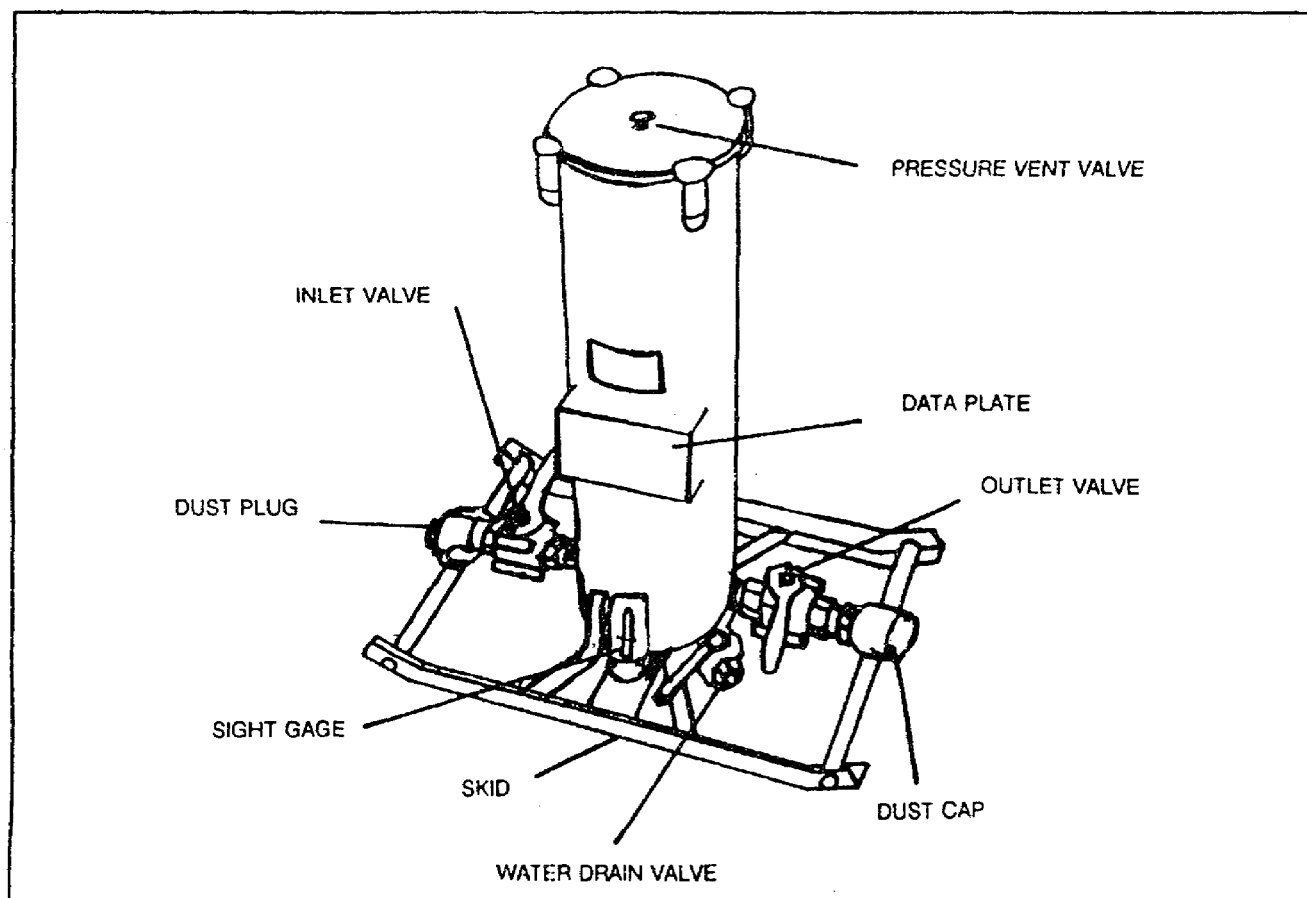

Figure 1-1. 15-GPM filter/separator
a. Description. The 15-GPM filter/separator (shown in Figure 1-1) is a vertical, portable unit consisting of an aluminum tank mounted on an aluminum skid. The tank has fuel inlet and outlet valves, a water drain valve, and a water level sight gage. The fuel inlet and outlet valves are identical 1-inch manually operated ball valves attached near the bottom of the tank. Provided at the inlet and outlet connections are cam-locking couplings for 1-inch hoses. The water drain valve is a 1/2-inch manually operated ball valve. It is also mounted near the bottom of the filter/separator. The water level sight gage consists of a plastic sight and a ball float. It is mounted on the side of the tank to show the water level in the base of the tank.